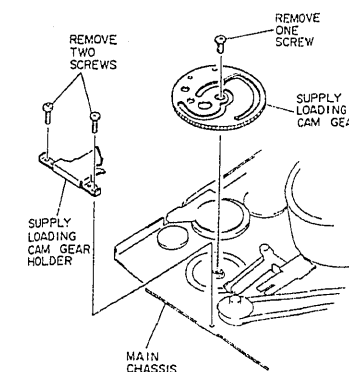

Fig. 2-55
- 1) Remove two (2) screws holding the supply loading cam gear holder. (See Fig. 2-55)
2) Remove one (1) screw holding the supply loading cam gear from the main chassis.